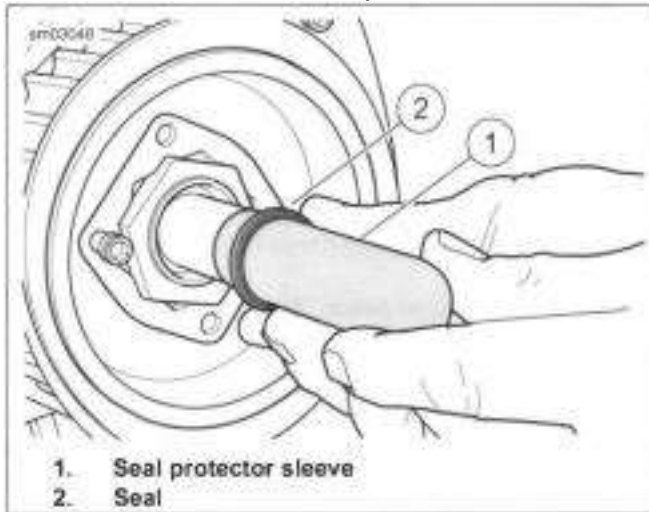
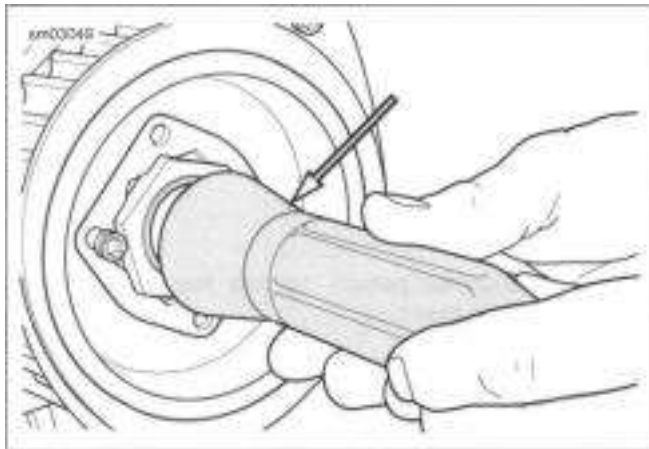

Figure 5-76. Seal Protector Sleeve
Figure 5-77. Seal Driver
3. See Figure 5-76. Place the seal protector sleeve (1) of MAIN DRIVE GEAR SEAL INSTALLER (PART NUMBER: HD-47933) over the end of the mainshaft.
5. Slide the seal (2) on the seal protector sleeve with the garter spring facing the bearing.
6. See Figure 5-77. Hand press seal onto place until seal driver contacts end of main drive gear using MAIN DRIVE GEAR SEAL INSTALLER (PART NUMBER: HD-47933). Lightly tap with a rubber mallet if necessary.